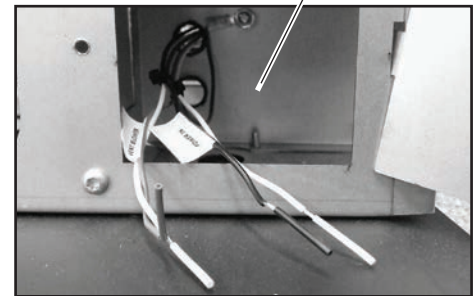
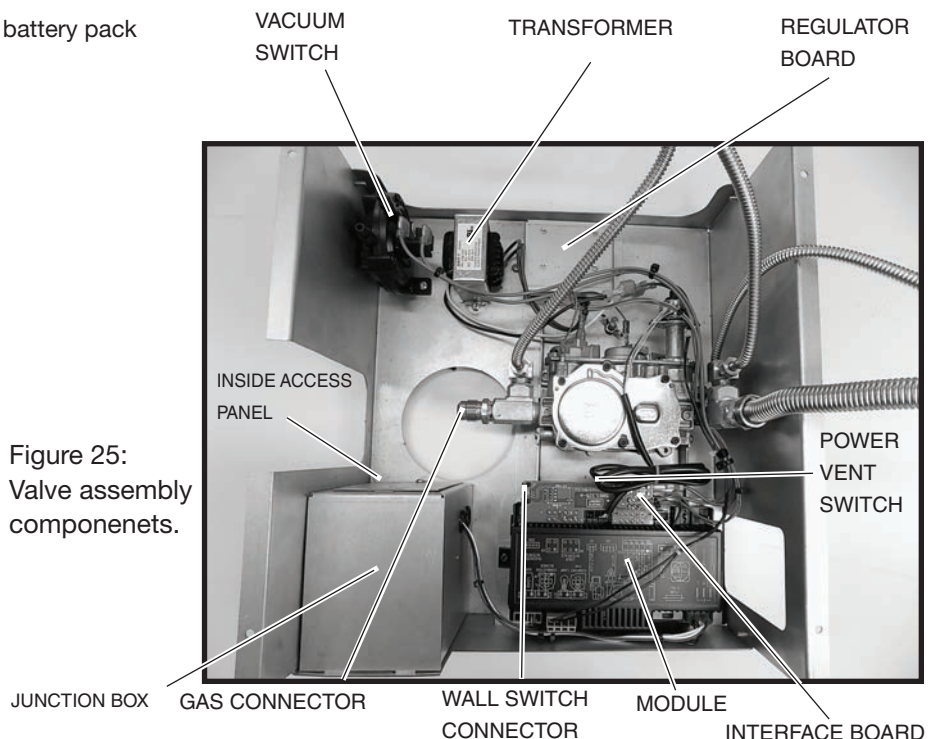
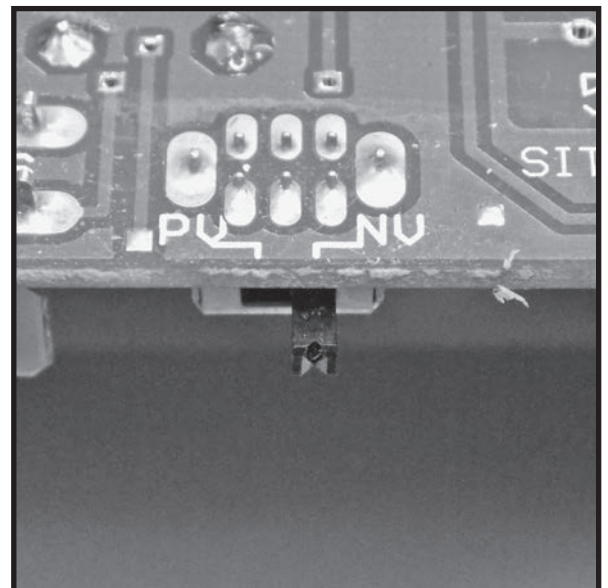

Figure 24: Junction box wiring.
Figure 25: Valve assembly components.
Figure 29: Vent mode selection switch.
4. Connect 110 V. AC electrical supply to the wires installed inside the junction box (Figure 24). The fireplace is rated at 110 volts, 60Hz, 0.25A. The optional power vent kit is rated at 115 volts, 60Hz, 1.8A.
5. The electrical wires can be accessed from both inside and outside the junction box by removing one of the two small access panels (Figure 24 and Figure 25).
8. Attach one end of the wall switch control cable to the wall control (Figure 27), and the other end to the interface board (Figure 25).
The NV / PV (Natural Vent / Power Vent) switch (Figure 29) on the interface board (Figure 25) is set according to which type of evacuating vent system is present. If the fireplace is vented without the assistance of a power vent, the switch should be set to "NV". If using a power vent, "PV" should be selected.
1. Connect the gas supply to the valve (Figure 25).